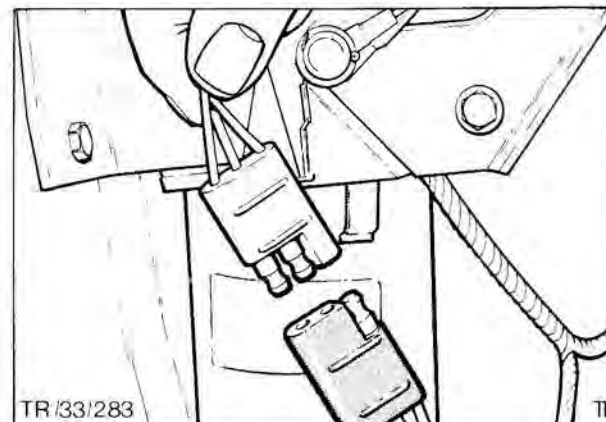

Fig. 41. Disconnecting loom plug
4. Disconnect switch from loom at multi-plug, Fig. 41.